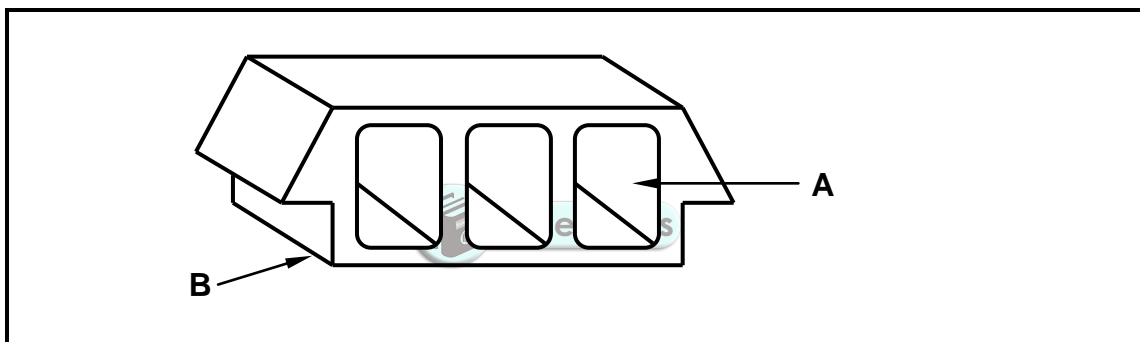

FIGURE 6.5
6.5 FIGURE 6.5 below shows material for a floor component. Study the diagram and answer the questions that follow.
6.5.1 Identify the part in FIGURE 6.5. (1)